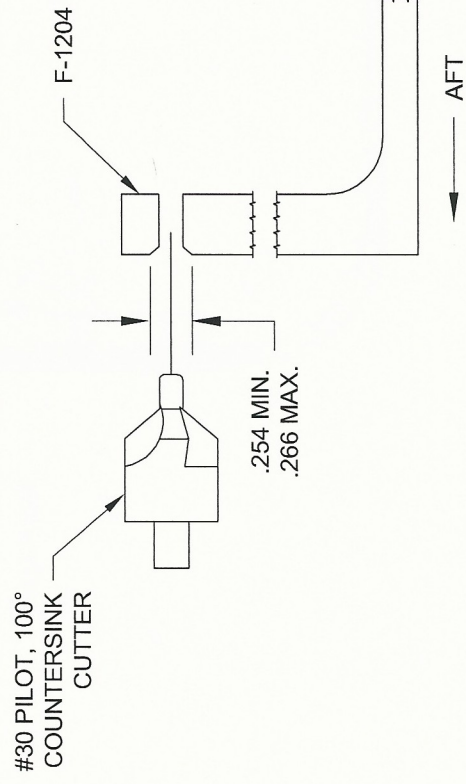
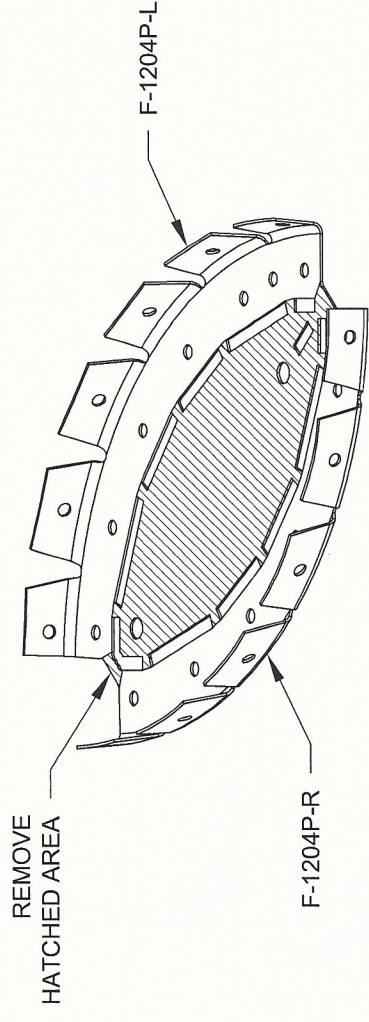

FIGURE 2: COUNTERSINK ORIENTATION DETAIL
FIGURE 3: SEPARATING SKIN ATTACH FLANGES
Step 2: Temporarily loosen the clamps holding the F-1204D Center Section Aft Bulkhead to the F-1204 Center Section Assembly and allow the parts to re-align according to their being clecoed to the F-1276 Bottom Skin. Tighten the clamps and match-drill #30 the holes in the center section aft bulkhead into the center section assembly beginning at the center and progressively drilling and clecoing outboard. See Figure 3. Drill #11 two places, see Pg 20-04, Figure 3.
Step 4: Machine countersink 100° the holes in the F-1204 Center Section Assembly that receive an AN426AD4 rivet- see Figure 2 and Pg 20-04 Figure 3. A piece of thin scrap with a 1/4 inch hole drilled in it may be used to check the diameter (as described on Pg 14-02). Dimple the corresponding holes in the F-1204D Center Section Aft Bulkhead- see Pg 20-04 Figure 3.
Step 5: Cut apart the F-1204P Skin Attach Flange to make F-1204P-L and F-1204P-R Skin Attach Flanges as shown in Figure 3.